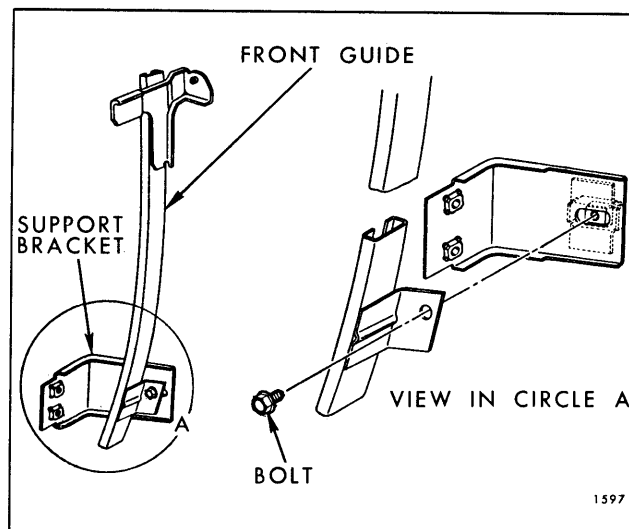

Fig. 6-99—Front Guide to Support Bracket Attachment -
- a. Door window front guide to support assembly attaching bolt (Fig. 6-99). Access to this bolt can be gained through large access hole.